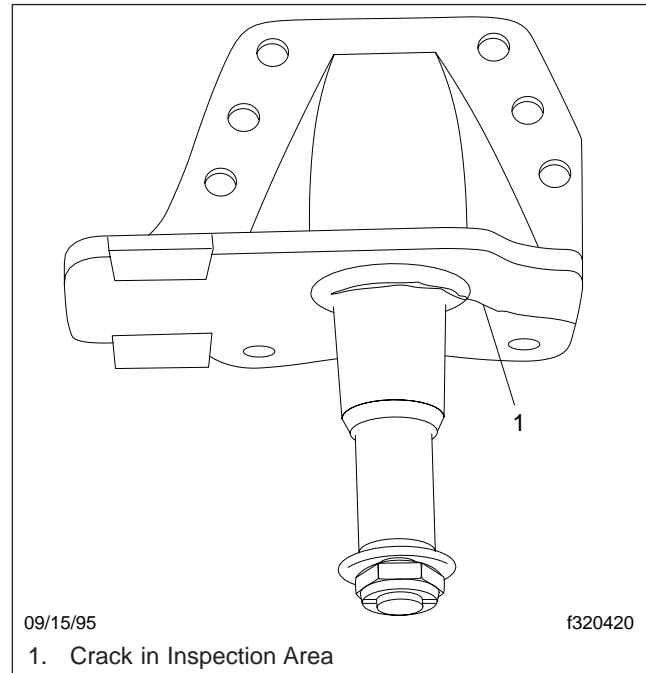

Fig. 15, Hendrickson RS Series Horizontal Mounting Flange
3. Visually inspect each frame hanger for evidence of cracks in the horizontal mounting flange adjacent to the vertical drive pin area. See **Fig. 15**.